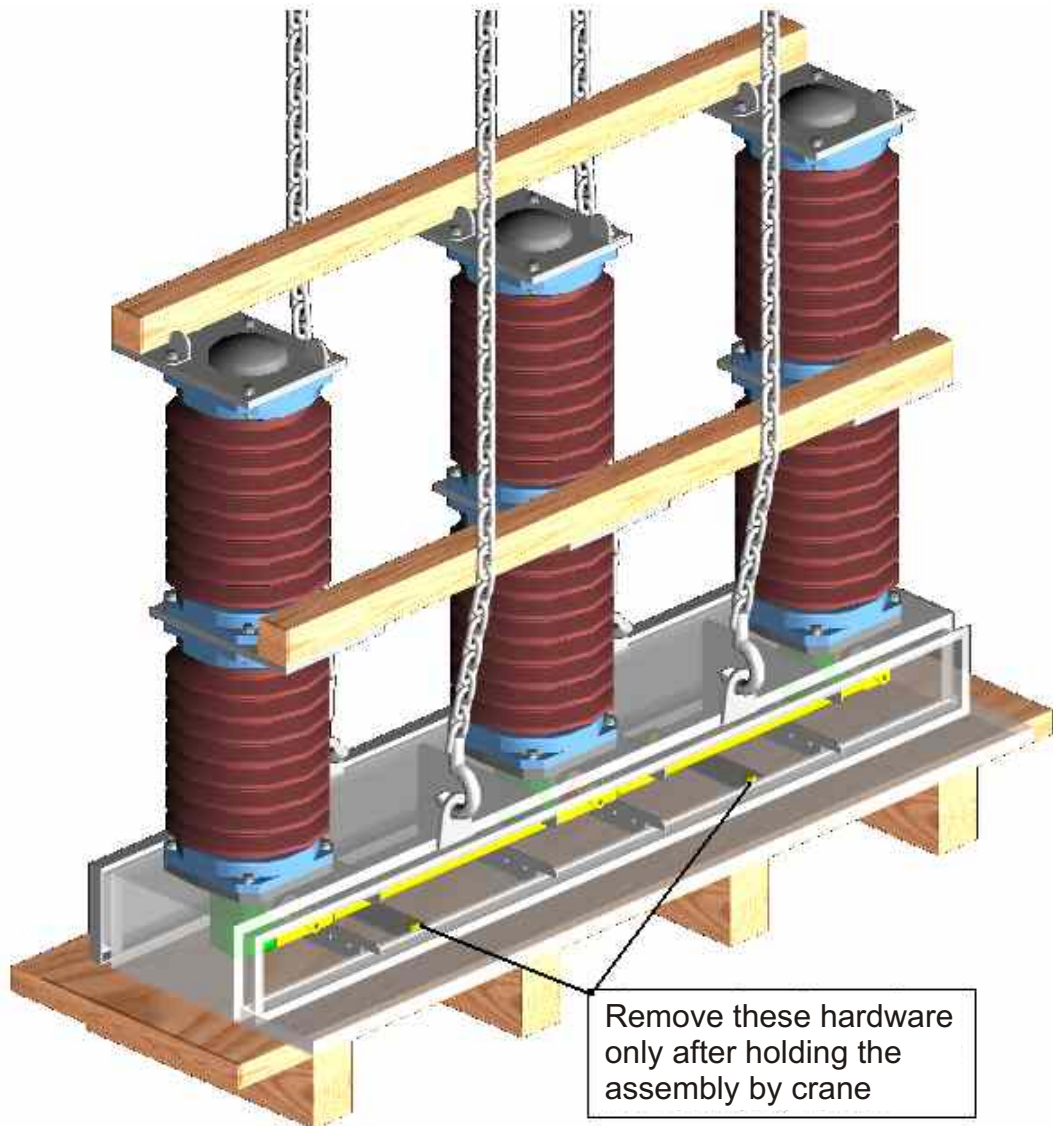

Fig. 17 Unpacking of Poles-with-Duct Assembly
- Hold Poles-with-Duct Assembly by lifting crane as shown in Fig.17
- Free Poles-with-Duct Assembly by removing bolts as shown in Fig.17